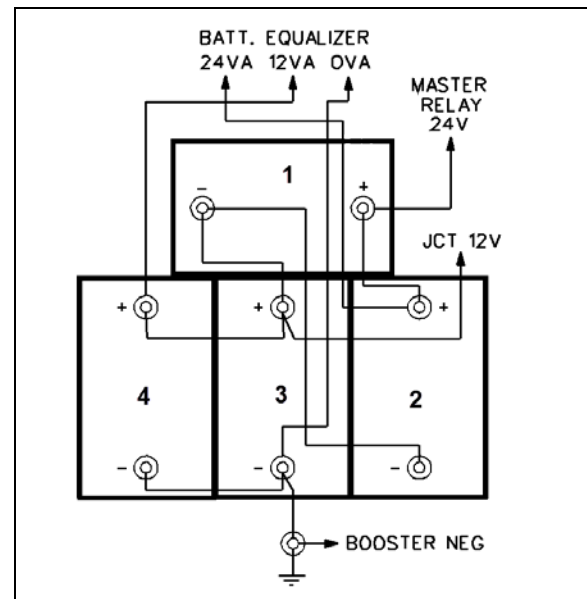

FIGURE 25 : H3 SERIES BATTERY CONNECTIONS (STANDARD ACID-LEAD GROUP 31)
The vehicle is provided with four (4) maintenance-free 12 volt heavy-duty batteries connected in series-parallel (FIGURE 25)